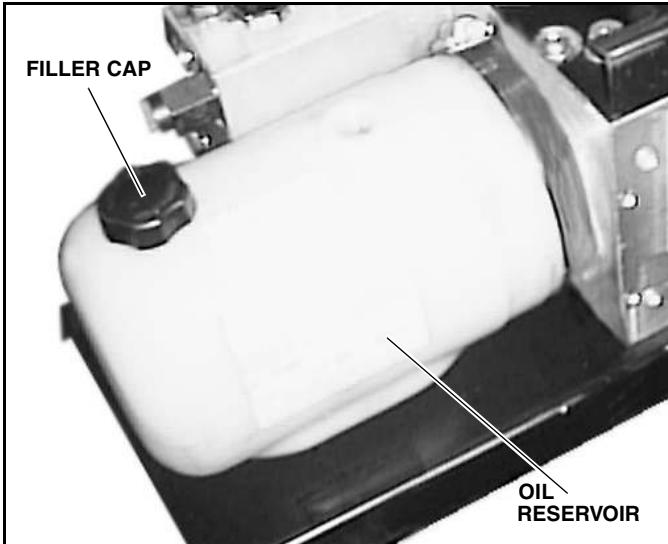

Figure 2-14
2. Remove two (2) self-tapping screws from the front of the cover and loosen two (2) cap screws from the rear. Remove the cover.
3. Remove the filler/breather cap from the reservoir. (See Figure 2-14).
- Loosen the clamp securing the oil reservoir to the pump assembly and remove the oil reservoir being careful not to damage the filter screen while removing the oil reservoir. (See Figure 2-14).